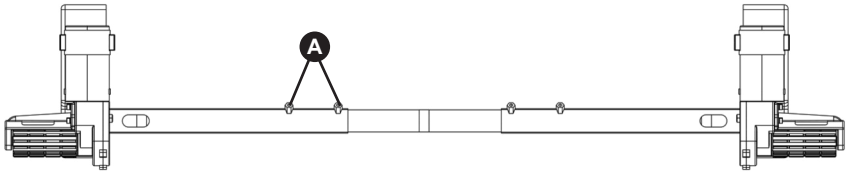
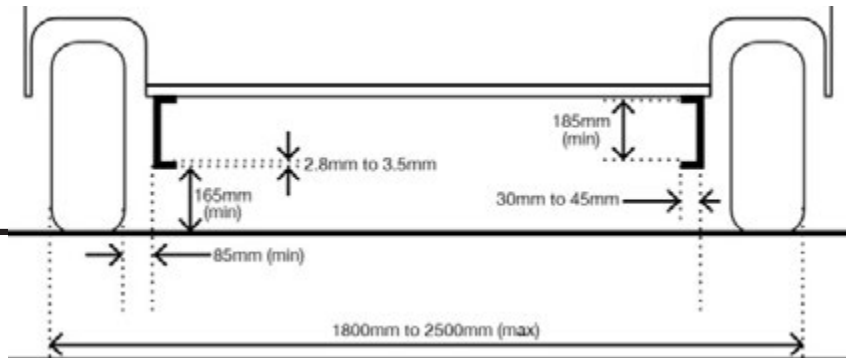
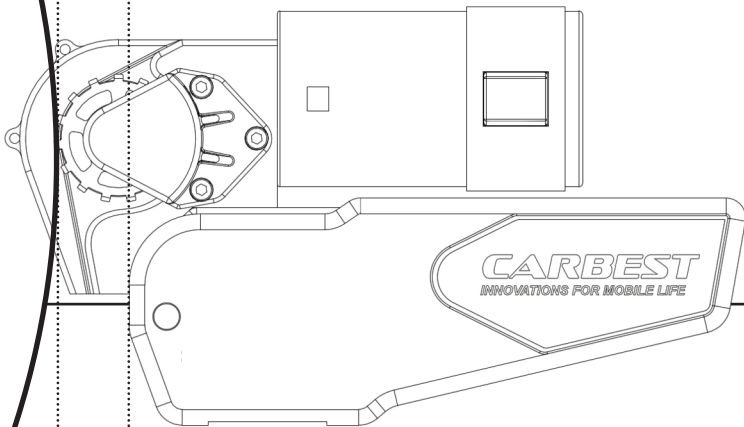

Fig.2
Fig.4
Fig.6
Unpack all of the components and check that all parts are present (see Package Contents Fig.A). The installation instructions will continue to reference the part numbers displayed in Fig.A. Prior to and throughout the installation, ensure that the movers remain in the DISENGAGED position (see Fig.4), as the unit will not fit correctly otherwise.
With the main assembly loosely fitted onto the chassis, slide the whole assembly along the chassis until the rollers (Fig.2.A) are 20mm away from the surface of the each tyre (see Fig.4). Two 20mm spacers (30) are provided to set this distance. Note that the movers should be in the disengaged position when the 20mm spacing is set. When setting the spacing, ensure that the rollers on both movers are centrally in line with the vehicle tyres both horizontally and vertically, to allow for the best possible wheel contact (see Fig.6 for reference). If the roller widths exceed that of the tyre, ensure that the end of the roller is aligned with the outer wall of the tyre. Overhang on the inside wall of the tyre is acceptable on thinner tyres, and should not drastically affect function or grip.